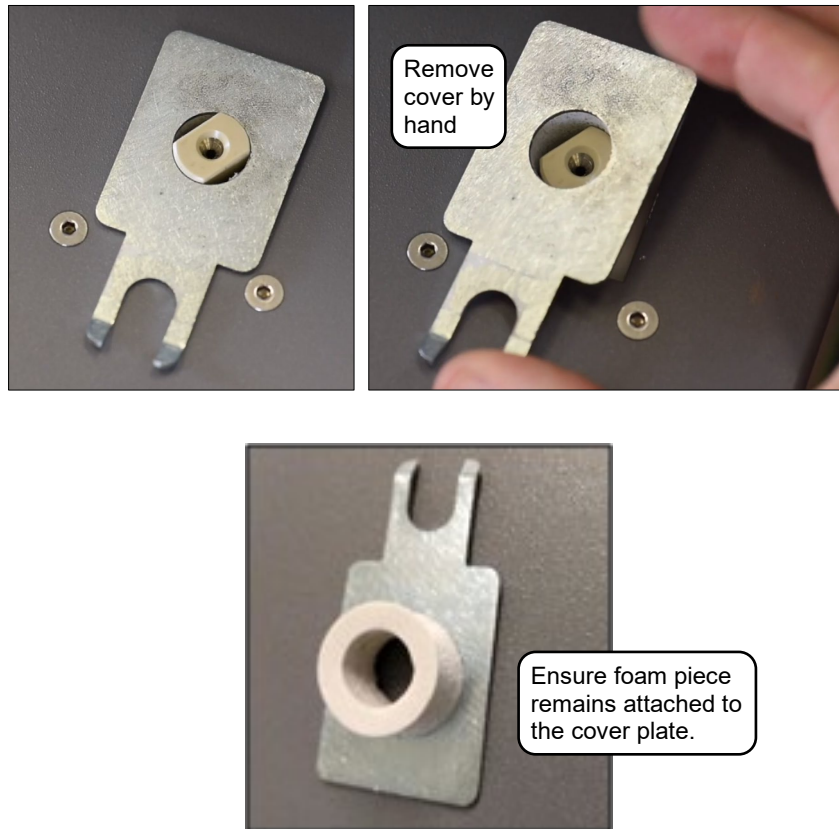

Figure 78: Injection Port Septum Cover Removal
3. Remove the protective metal cover from the injection port. There is a piece of insulation foam attached to the cover plate. Ensure that it stays attached to the plate. See Figure 78.